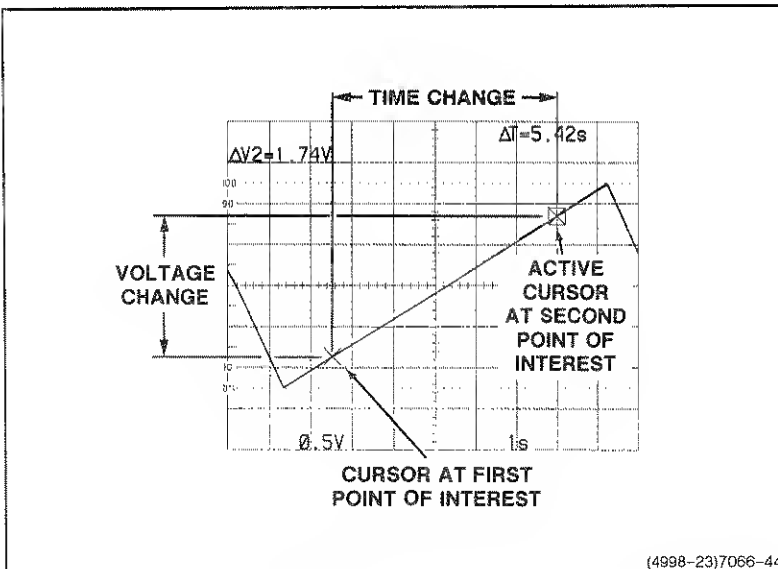

Figure 6-23. Slope using cursors.
4. Set the A SEC/DIV switch to horizontally spread the portion of the waveform to be measured across the width of the graticule area (see Figure 6-23).
As an example, in Figure 6-23, the voltage difference between the measurement points is 1.74 V, and the time difference is 5.42 s.